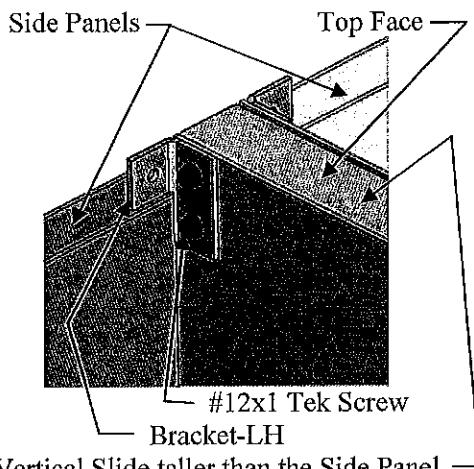
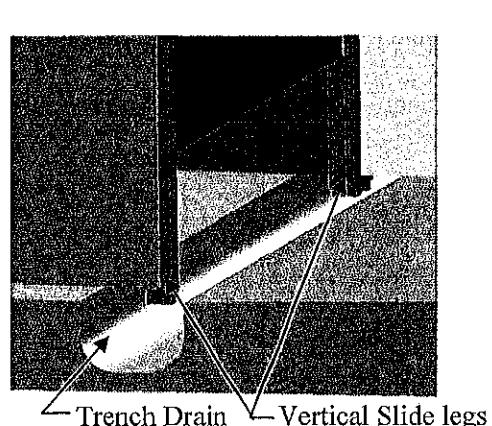
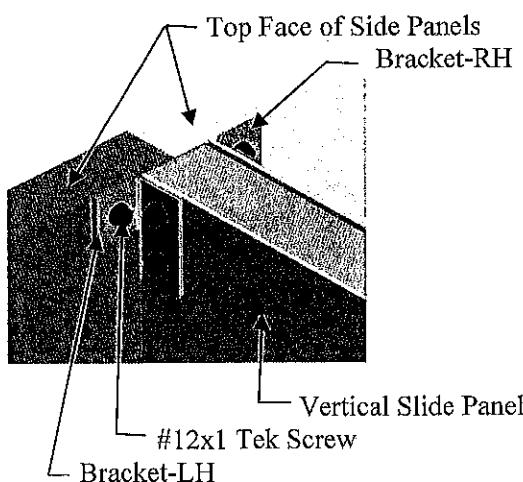

Figure 11
Figure 11A
Figure 12
1. Locate LH & RH Brackets that have three drilled holes. Attach the brackets to both sides of the Vertical Slide Panel using 1" self drilling Tek screws. Make sure to flush the Brackets with the top face of the Vertical Slide Panel (**Figure 11**).
2. After attaching the Brackets to the Vertical Slide Panel and you will notice it is taller than the Side Panels (**Figure 11**). Position the Vertical Slide Panel in the middle of the kennels by bringing its legs inside the trench drain (**Figure 11A**) and mount to the Side Panels using 1" self-drilling Tek screws. Be sure to flush the top of the Side Panels with the top of Vertical Slide Panel before attaching (**Figure 12**). Have another helper hold in place while you attach. Follow the same instructions to attach the brackets to the Side Panels on the other side of Kennels (**Figure 12A**).